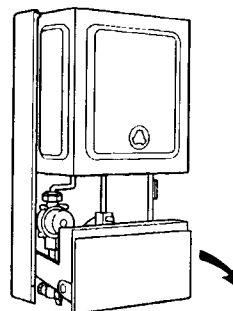

Fig. 19
5.7.2 To gain access to the electrical terminals hinge down the spring loaded control fascia. (ref. to fig. 19) until it rests in an approximately horizontal position.